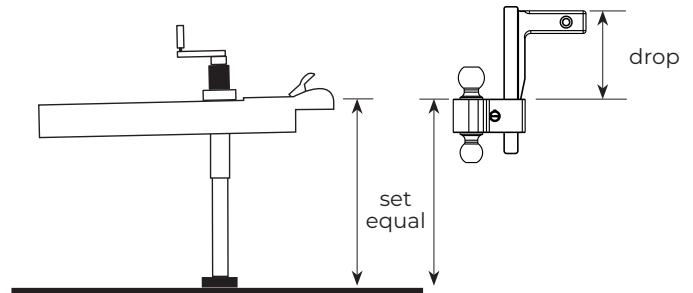

Figure 1
6. Measure from the ground to the bottom of the coupler on the trailer. Rotate the ball holder to use the correct hitch ball for your trailer. Pin the ball holder into place on the drop bar at the same height as the trailer coupler by sliding the pin through the ball holder and drop bar. (Figure 1)